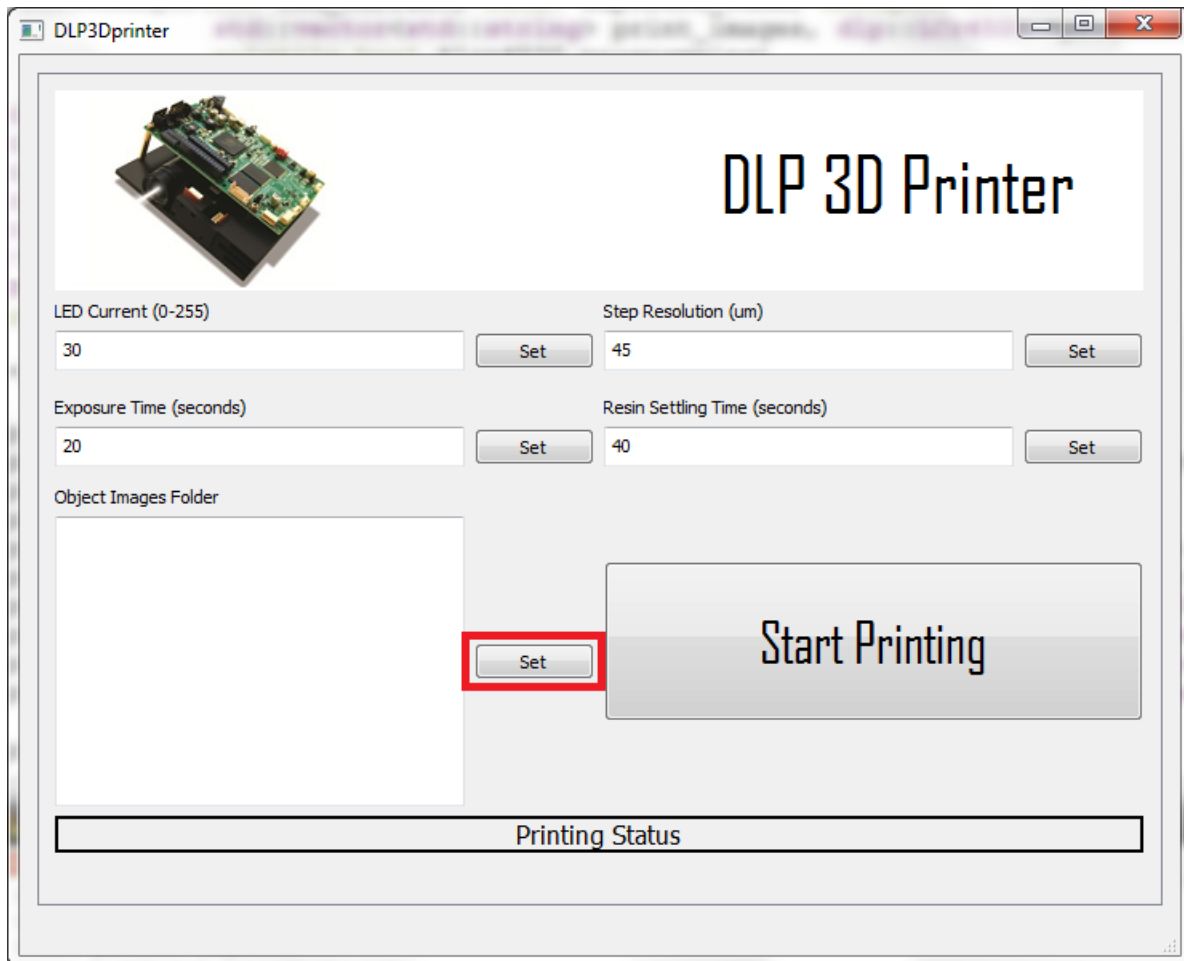

Figure 3-18. Setting The Image Folder
2. The DLP 3D Printer GUI will appear loaded with the default settings. Click the **Set** button to the right of the **Object Images Folder** text box, as shown in Figure 3-18.